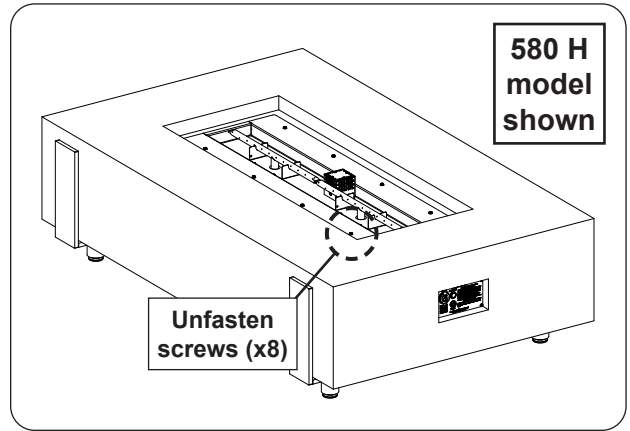

Fig. 33-1 Gain access to interior of unit
1. Use a $\frac{5}{16}$ " nut driver to loosen the 8 screws found on the burner assembly (see Fig. 33-1).